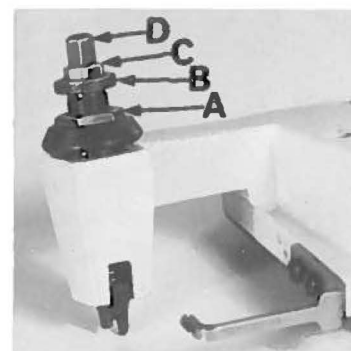

Fig. 2
Sufficient presser foot pressure to feed work uniformly should be maintained. Should it be necessary to increase or decrease amount of pressure on presser foot, loosen lock nut (A, Fig. 2) and turn adjusting screw (B). Adjusting screw has a right hand thread, so tightening increases pressure, loosening decreases pressure. When pressure adjusting screw (B) has been properly set, tighten lock nut (A). With presser foot resting on throat plate, position locking nut (C) so that its under surface is approximately 1/32 inch to 1/16 inch (.79 to 1.59 mm) from the top surface of adjusting screw (B). Set cap (D) against locking nut (C).